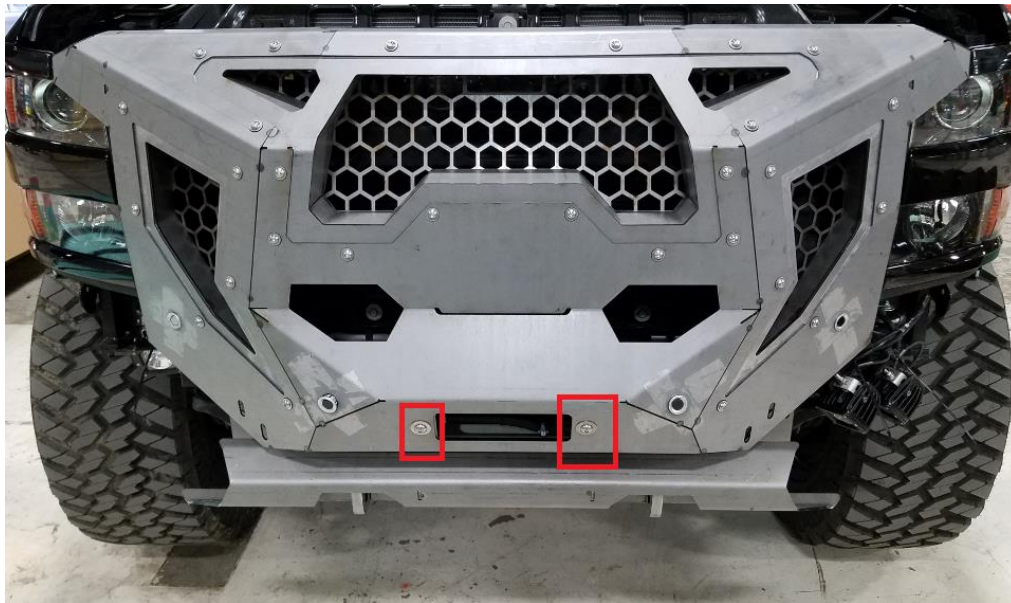

Figure 18a
E. Install the center grill section onto the truck (Figure 18a & b). Secure it to the 2 brackets under the hood with 3/8" x .75" bolts. Fasten the center section to the winch tray with the 7/16" stainless button head screws. If you have a winch, the fairlead should be attached at this time using the bolts provided with the winch. Adjust the center section so that it's centered on the truck and at the correct height and tighten all fasteners. Connect the sensor wiring harness to the harness on the truck.